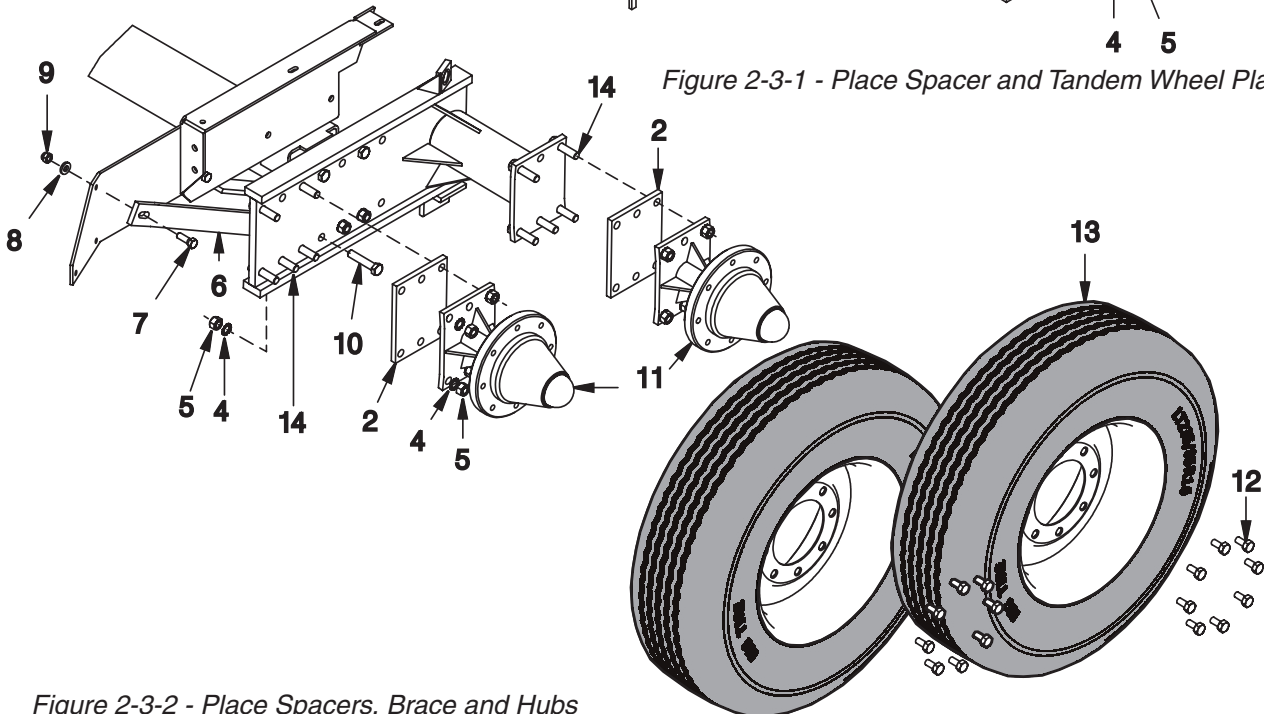

Figure 2-3-2 - Place Spacers, Brace and Hubs
B. (See Figure 2-3-2). Place (2) F000007636 Spacer Plates on the tandem plate. Place (2) F000008003 Hub and Spindle assemblies over Spacer Plates. Place all bolts, star washers and nuts so the hub and spindle are secure. Place (1) F000007705 RH Brace on the axle. Torque all nuts and bolts as per torque chart on page 2-3-1.